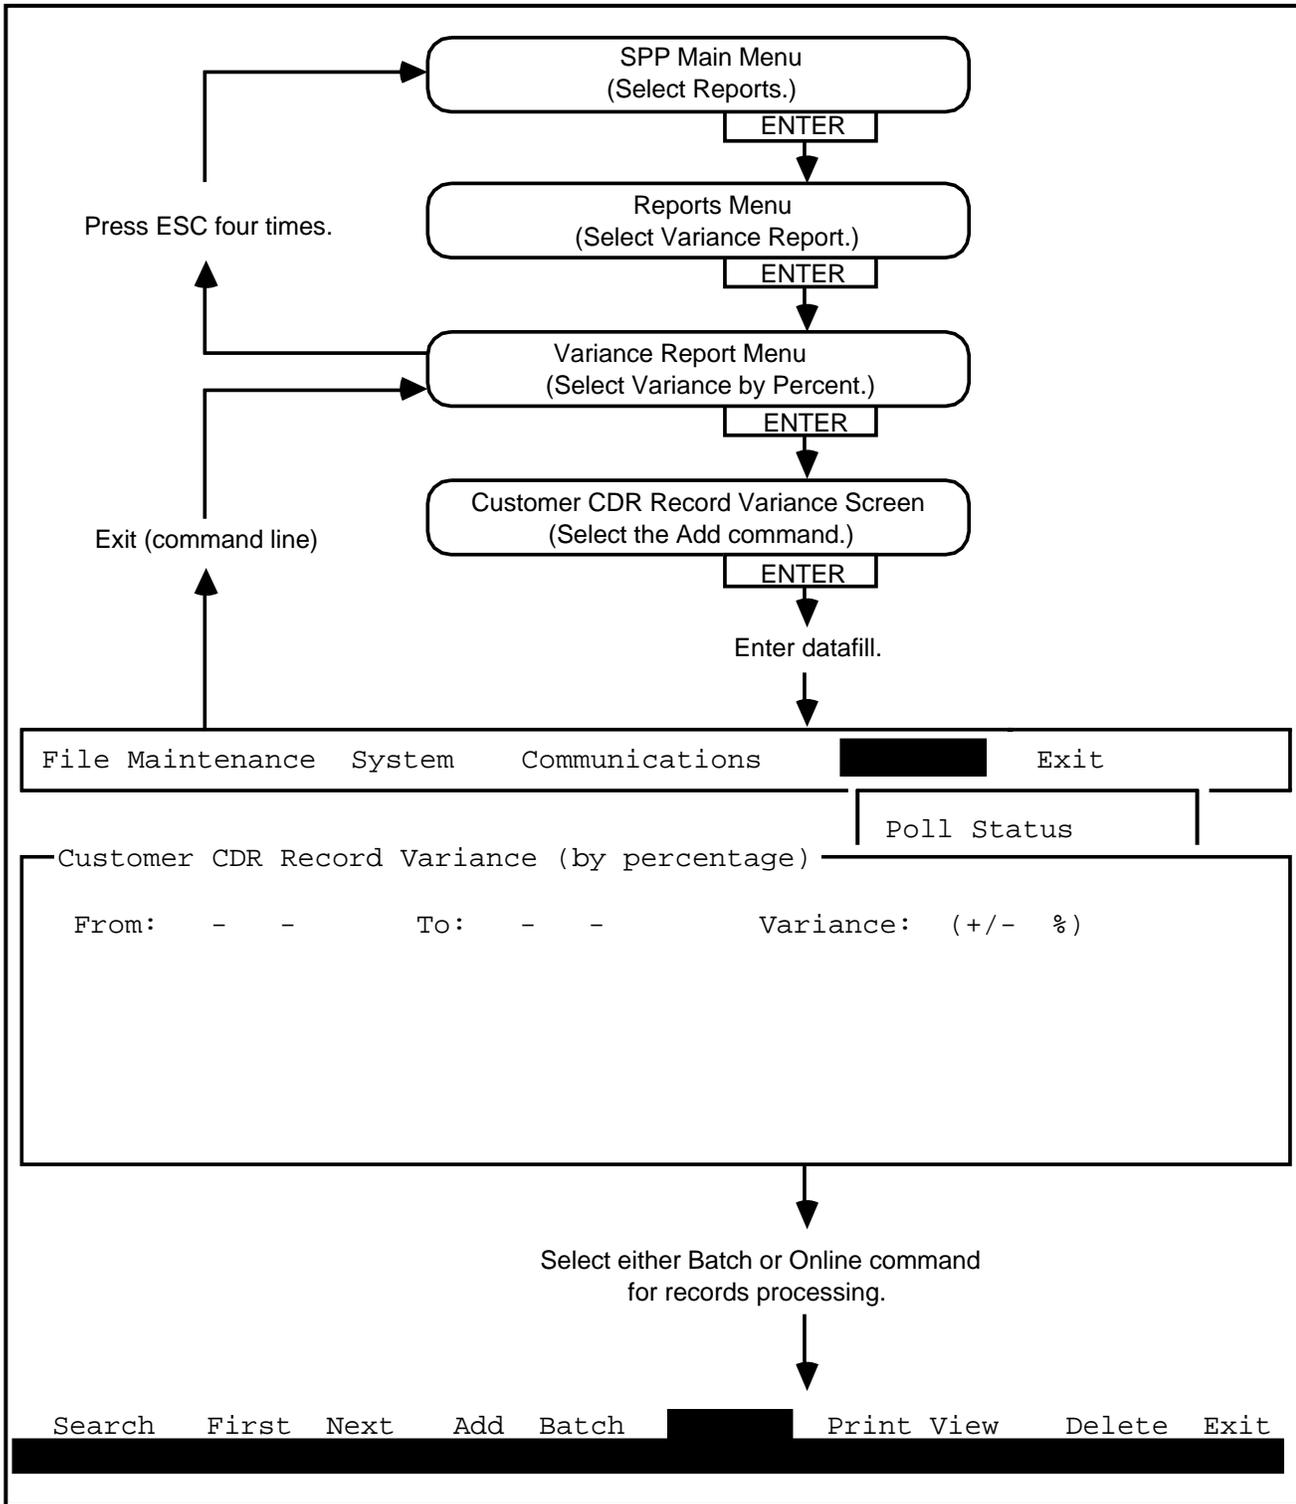

Fig. 6-5
6.13 To generate reports for a specified date range, showing sites for which the volume of records polled is greater or lesser than a specified percentage (see Fig. 6-5) proceed as follows: